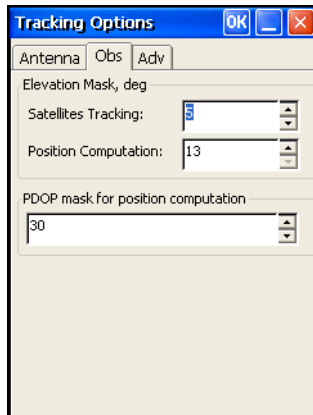

Figure 3-20. Configure Receiver Positioning – Elevation Mask
- Click the **Observation** tab, and set the **Elevation mask** to 15 degrees for satellites tracking and position computation (Figure 3-20), also the **PDOP mask** for position computation, then click **OK**.